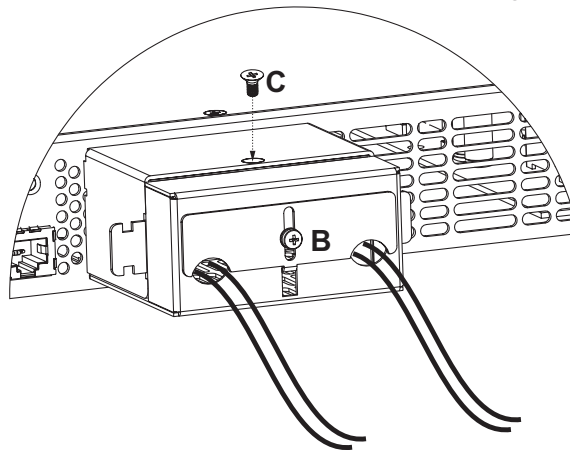

Fig.3-9: Enclosure assembly
7. Assemble the enclosure bottom cover to its place, as shown in Fig.3-9, using screw "C", (tightening torque 4.8-5.3 Lb-inch).